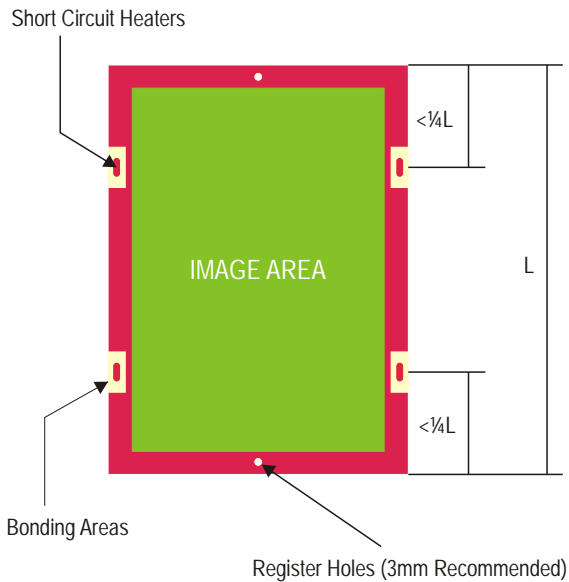

Fig.1
- A high - precision template with mechanical pins is used for the lay-up and registration, therefore the inner layers must first be prepared with the corresponding registration holes (see Figure 1). These holes are generally drilled or punched after the layers are etched.